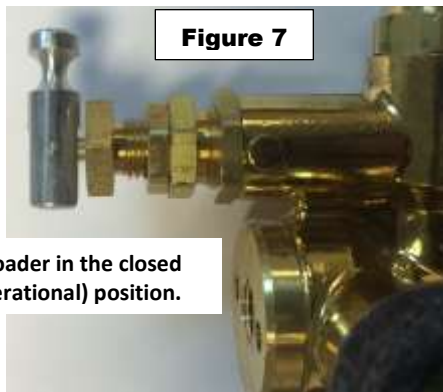

Figure 7
- Close the unloader valve as shown in figure 7